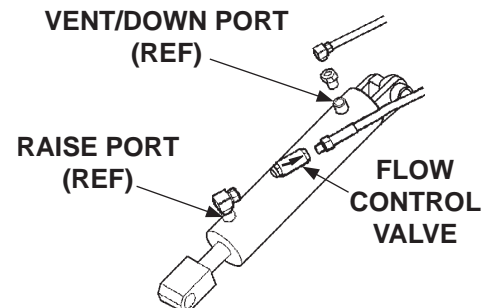

FIG. 49-3
7. Check if flow control valve (**FIG. 49-3**) is pointing to the direction of restricted fluid flow (back toward pump). If required, remove flow control valve and install it correctly (**FIG. 49-3**).